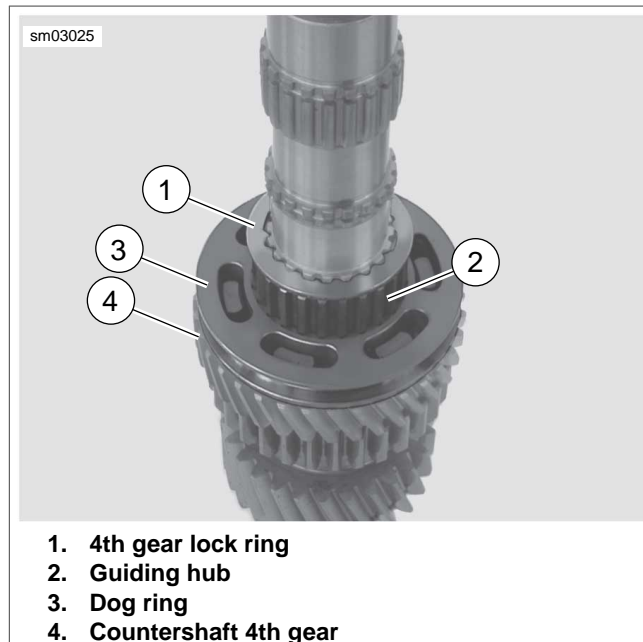

Figure 6-23. Countershaft Assembly
See Figure 6-23. Note the direction that the 4th gear locking ring is installed.
1. See Figure 6-23. Install **new** needle bearing, countershaft 4th gear (4), guiding hub (2), dog ring (3) securing segments and internal splined washer (1) on countershaft.